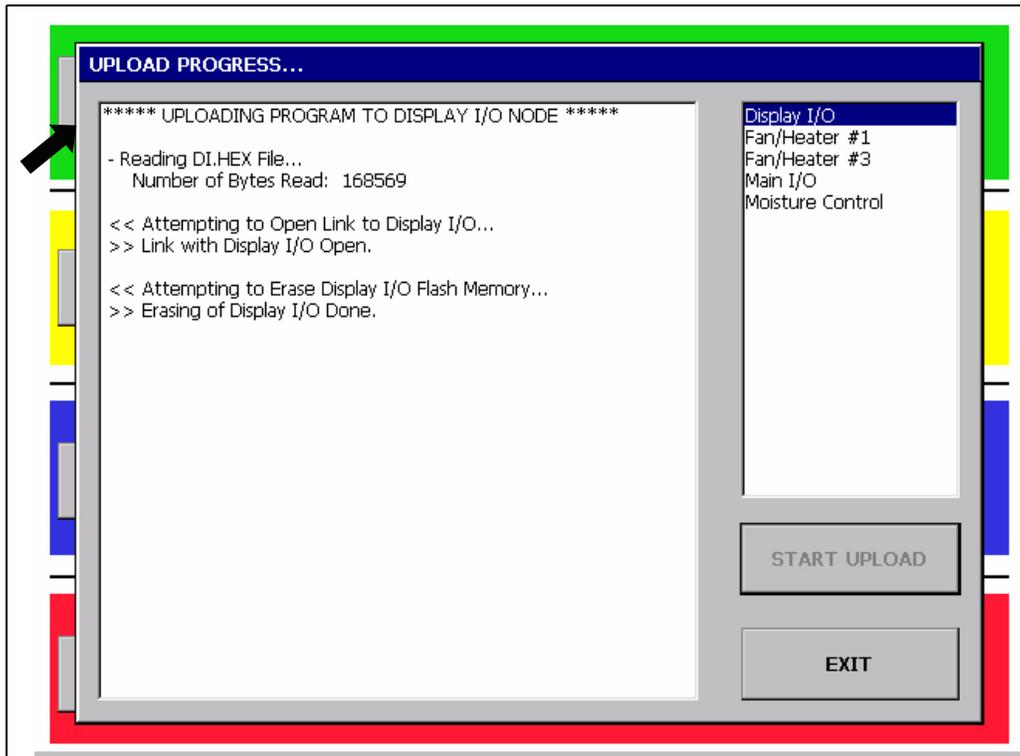

Figure 8
10. When the “Upload Progress” screen appears, select the “Start Upload” button. (See Figure 8.)
The box on the right of the screen lists the network circuit boards detected in the scan. Each circuit board listed will have to be reprogrammed, so this may take a few minutes. File upload progress for the circuit board that is highlighted is displayed in the box on the left. *(See Figure 8 on Page 4.)*